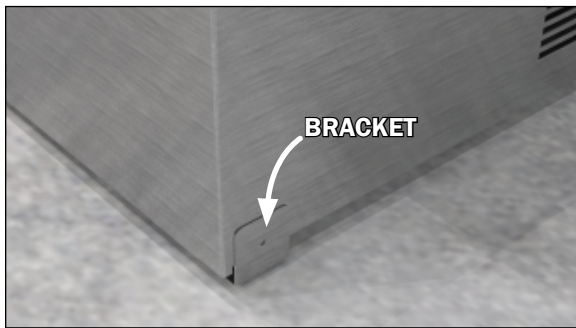

Fig. 4 Seismic anchoring locations (caster brackets)
9. (CASTERS) If necessary, attach two brackets at two separate corners of the case (Fig. 4) and fasten to the floor with concrete anchors. **Note: The brackets do not need to be affixed in the exact locations specified here. However, be sure that the anchors are close to the corners and that at least two brackets are used, one at each corner.** You can use more than two brackets for anchoring if you want further support this way.